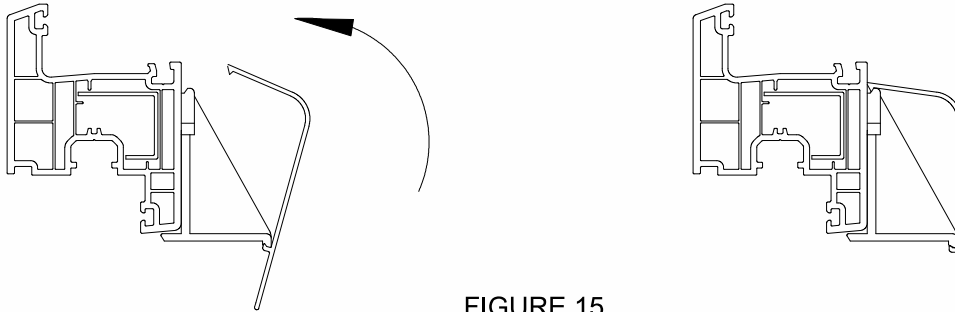

FIGURE.15
- a- Take accurate measure between front and rear carrier caps, and cut cap profiles; then mount the same as shown in Figure.15.